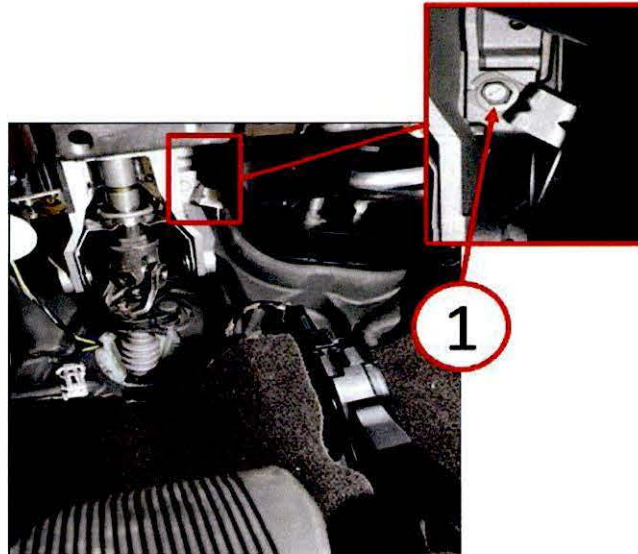

Fig. 4 Steering Column Bracket
5. Remove the fastener (1) securing the steering column lock control module wiring harness bracket to the steering column and discard the steering column lock control module wiring harness bracket (Fig. 4).